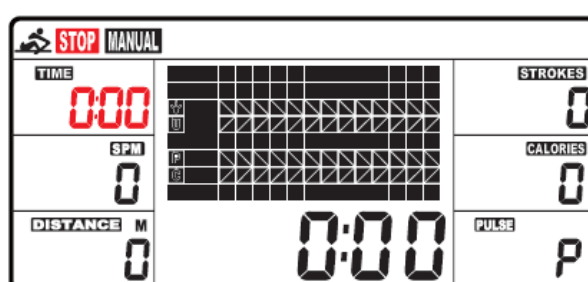

Fig. 4
1. **MANUAL (Fig.4):** There are 2 options in MANUAL mode. A. The computer can be set to countdown a different value. When you select MANUAL, the value of TIME will start to flash. Press UP to set the value of TIME to countdown. Press ENTER to confirm it. If you do not want to set the value of time to COUNTDOWN, press ENTER to go to the next function. You can set the values for DISTANCE, STROKES, CALORIES, or PULSE. (You can only set the value for one function to countdown. For example, if you have set the target value for TIME, then DISTANCE can't be set.) Press START button to start. The STOP icon will disappear. When the function you have selected counts down to zero or you press STOP button, the computer will stop and display the average value. B. The computer counts the value of your workout. Press START to start.